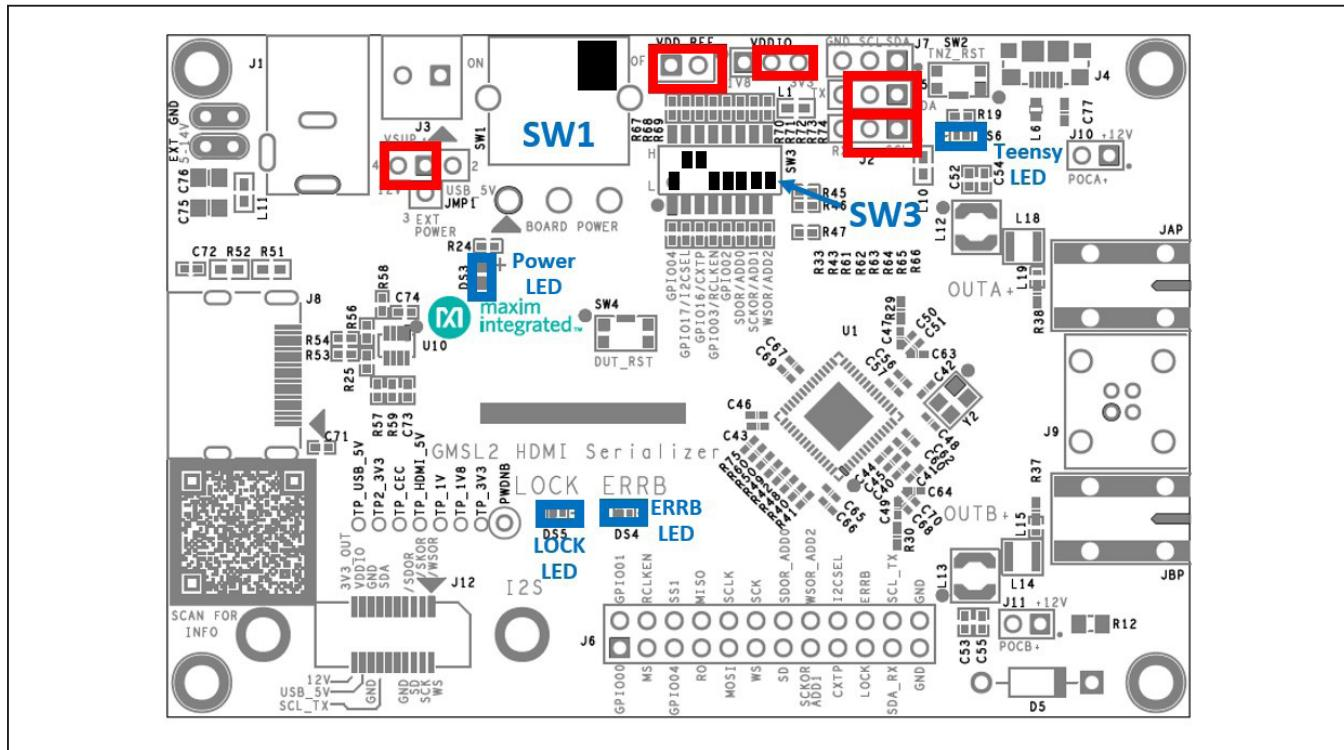

Figure 3. Serializer Evaluation Board Default Jumper
- 2) Verify that the on-board jumpers on the deserializer board are in their default positions (Figure 3) with SW1 off.
- 3) Configure SW3 as shown in Figure 3 to set serializer address to 0x80, coax mode, and I²C control.